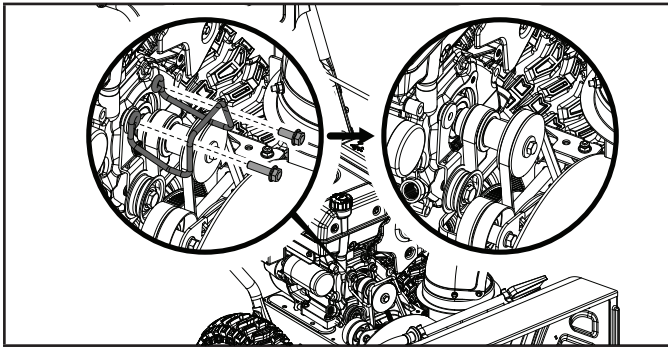

Figure 24D
- Remove the 2 bolts (20 mm/30 mm) holding the belt guard (Fig. 24D). Note the spring is loose at this point.